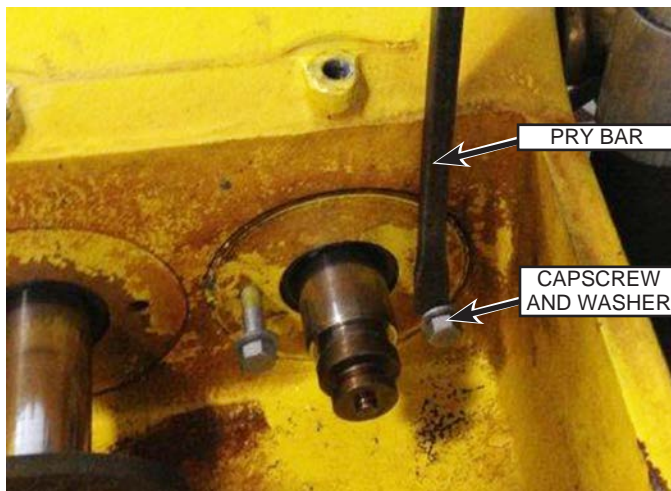

Fig. 126: Seal Plate Removal
11. Install two 1/2"-13 UNC capscrews (Fig. 126) into the seal plate.
12. It may be necessary to use a long pry bar with the power frame as a lever to pry the back of the bolts. The seal plate should pop out from its bore. Remove the plate as shown in Fig. 126.